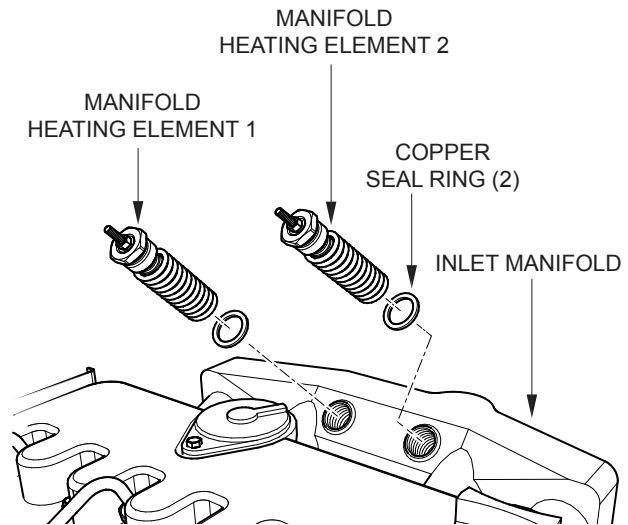

Figure 10. Heating Element Installation
3. Insert the supplied heating elements (Figure 10) into the same location where the inlet manifold plugs were removed. Be sure that the copper seal ring has been installed.